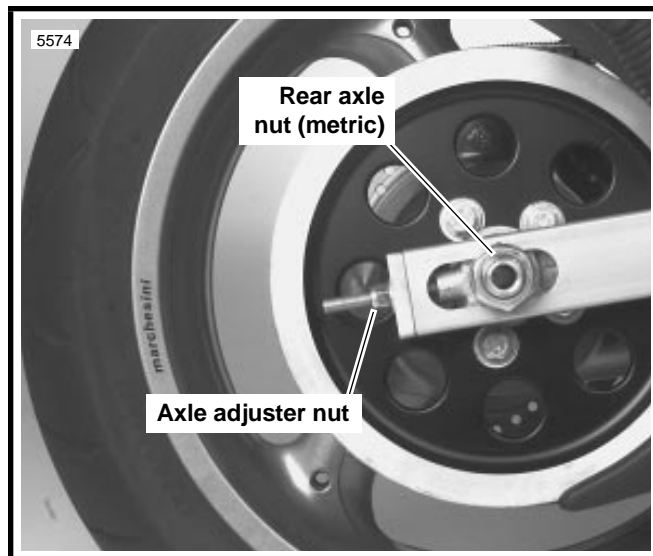

Figure 2-8. Rear Wheel Mounting
4. See Figure 2-8. Loosen rear axle nut (metric).